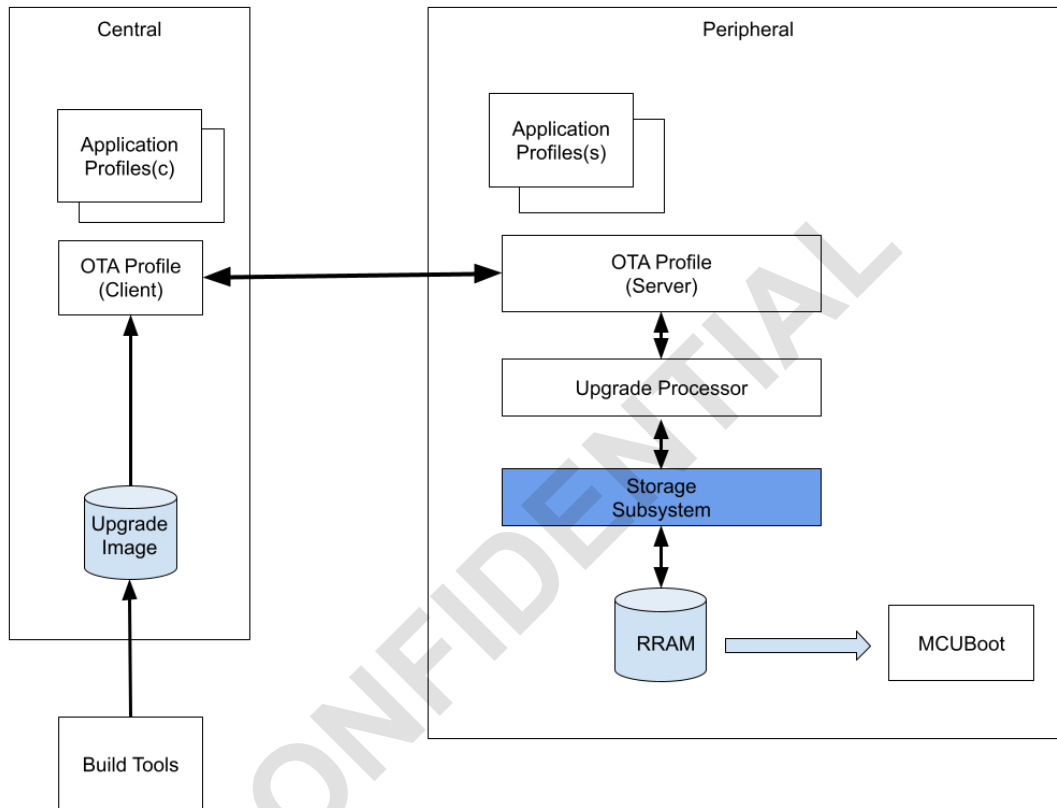

Figure 1 - OTA System Block Diagram
- Figure 1 - OTA System Block Diagram
The OTA system is described in Figure 1: